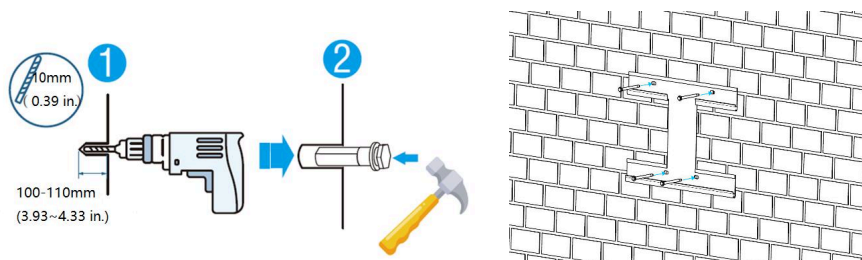

Figure 5-1
b) Choose the recommend drill head (as shown in Figure 5-1) to drill 4 holes on the wall, 100mm-110mm deep.
c) Use a proper hammer to fixing the hanging plate to the wall, fit the expansion bolt(M6*100) into the holes, as shown in Figure 5-1.